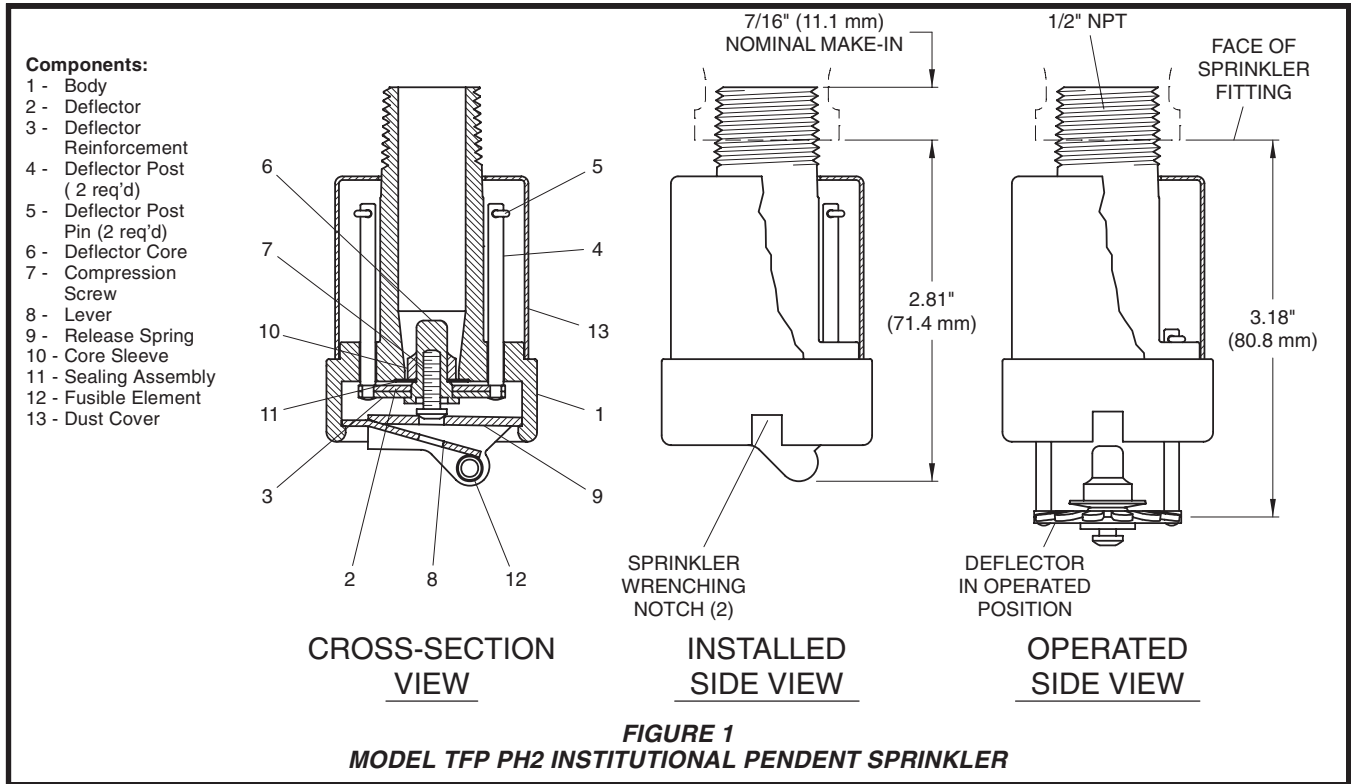

FIGURE 1
**Step 3.** Wrench tighten the Sprinkler using only the Model 1509-3 Sprinkler Wrench (Ref. Fig. 4). The wrenching teeth of the Sprinkler Wrench are to be applied to the sprinkler wrenching notch areas (Ref. Fig. 1).